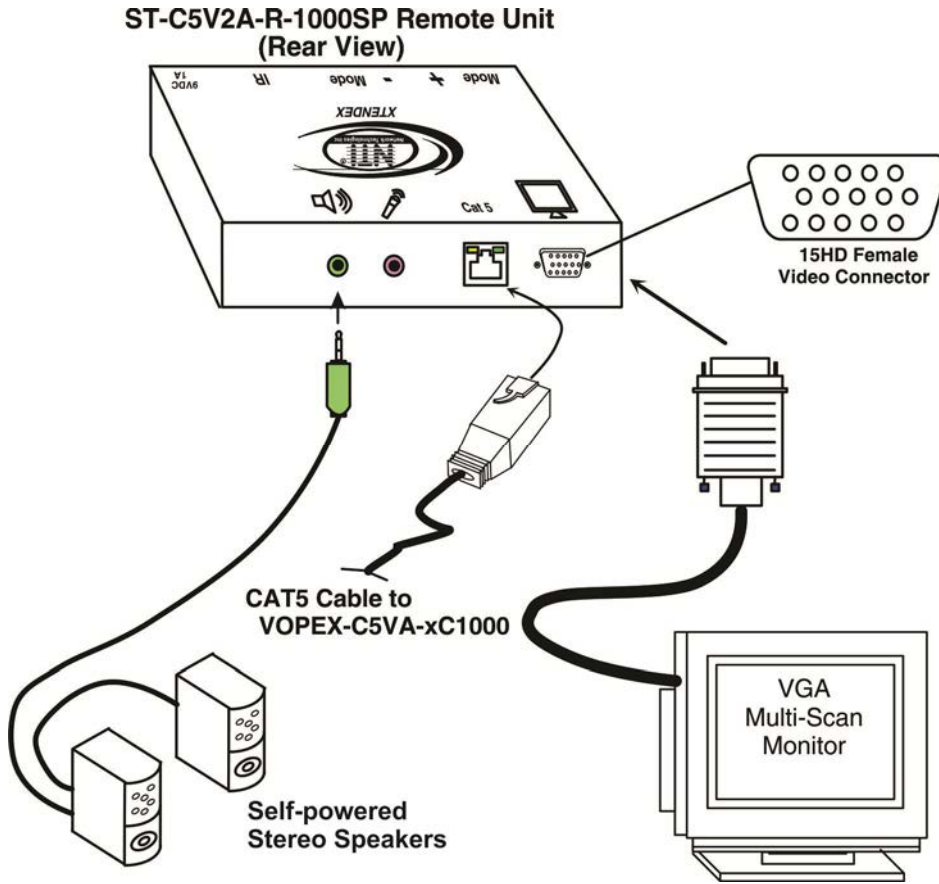

Figure 2- Make connections to 1000 Foot XTENDEX Remote Unit
3. If the Remote Unit has audio support, connect the cable from the remote speakers to the 3.5mm stereo audio jack with the speaker symbol on the Remote Unit. (See Fig. 2)